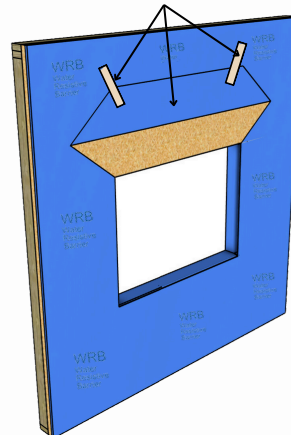

Figure 3.1
- Measure from the corner the width of the flashing up and over and mark 45° diagonal (Figure 3.1)